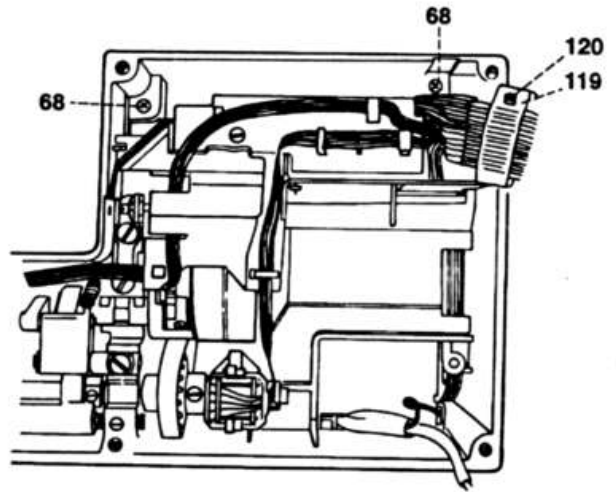

Fig. 30a
- Unscrew both screws 68 (fig. 30a).
- Insert the two screws 68, press the programming panel against the machine and screw on the screws (fig. 30a).